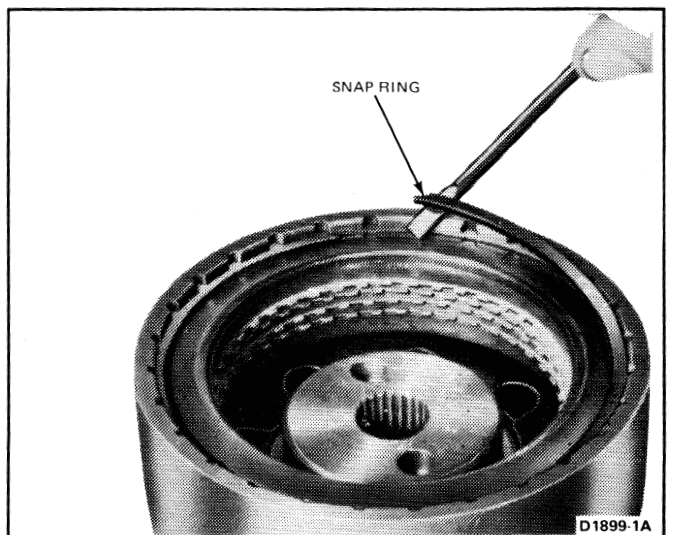

FIG. 48 Removing Forward Clutch Pressure Plate Snap Ring
1. Remove the clutch pressure plate snap ring (Fig. 48).